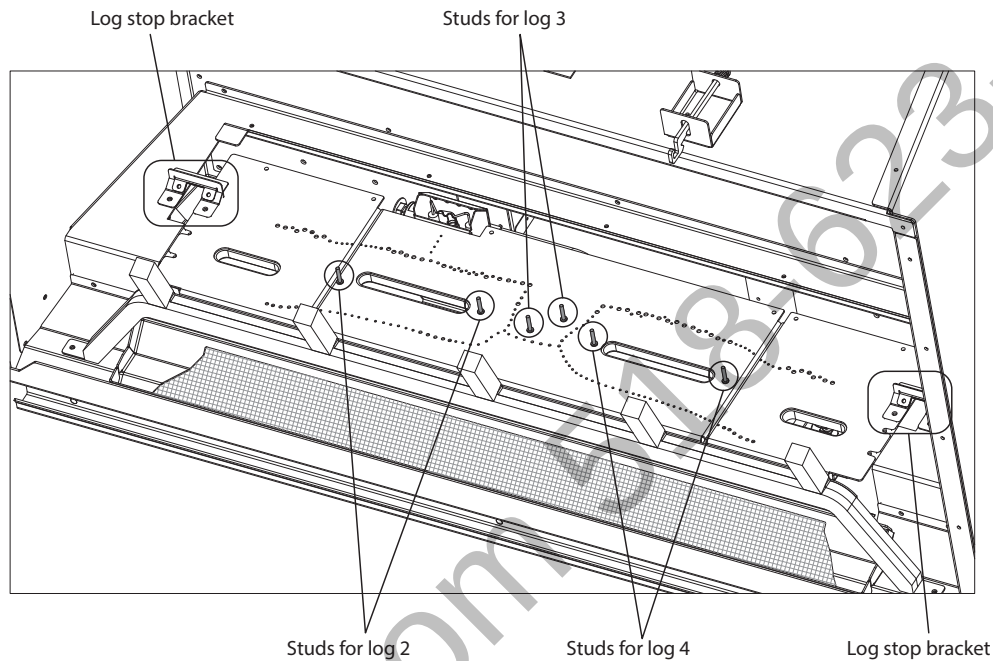
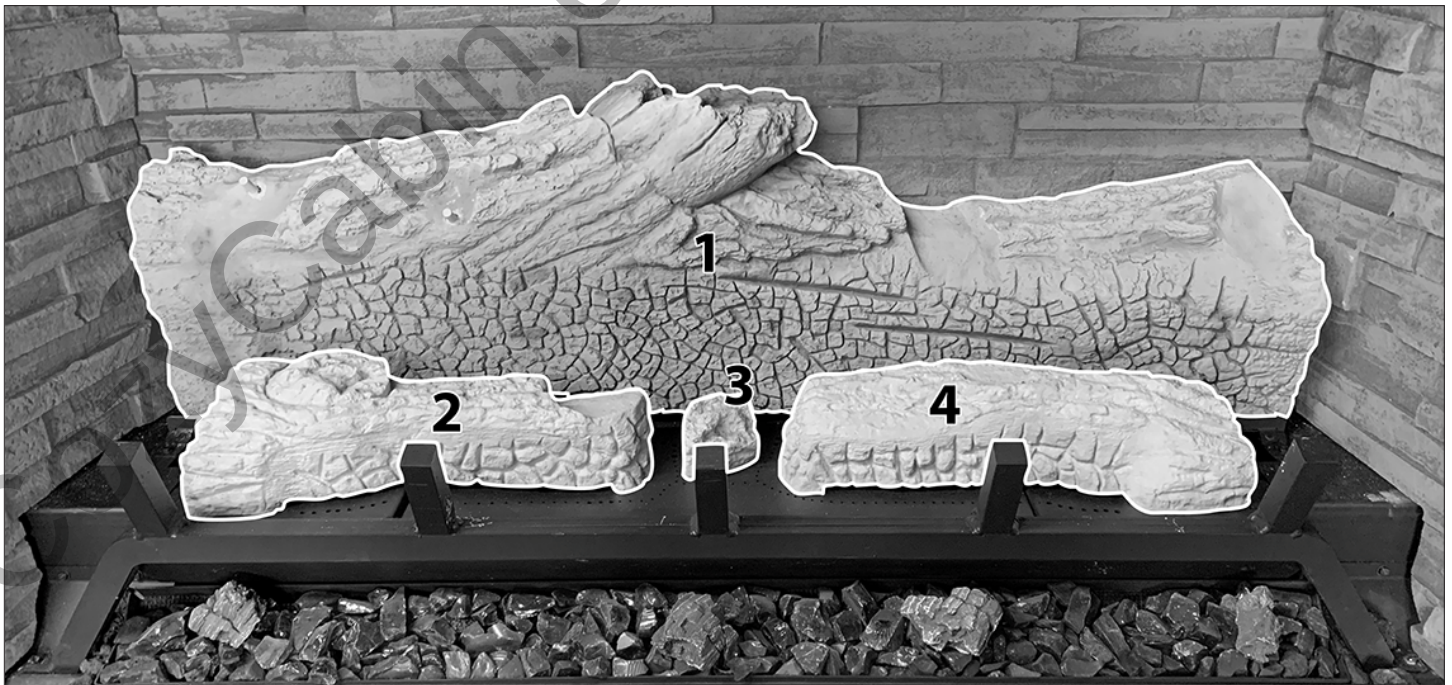

Figure 1, Burner Stud Locations and Log Stop Brackets
Figure 2, Base Logs
- 1. Using both hands, place log 1 at the rear of the firebox, as shown in Figure 2. Slide the log forward until it rests against the log stop bracket flanges (Figure 1).
- 2. Align the holes in the bottom of logs 2, 3, and 4 with the corresponding studs located on the burners. See Figure 1 for burner stud locations.